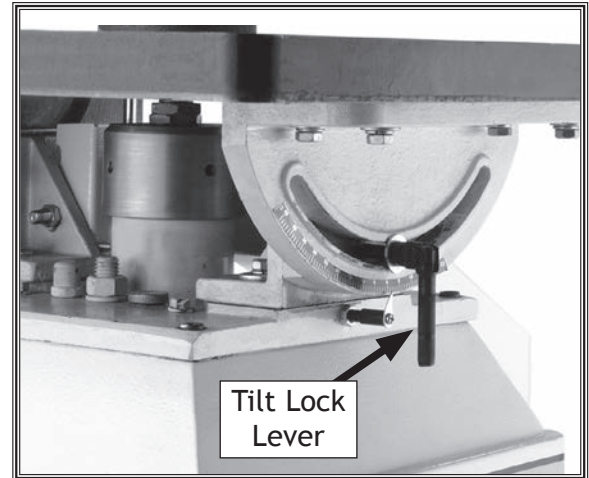

Figure 29. Location of tilt lock levers (1 of 2 shown).
2. Loosen tilt lock levers (see **Figure 29**) and adjust table to desired angle. Tighten tilt lock levers to secure table in position.